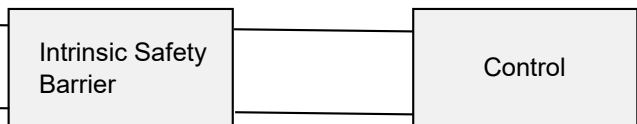

Figure 1-1
**#6** Refer to figure 1-1 for completed installation.